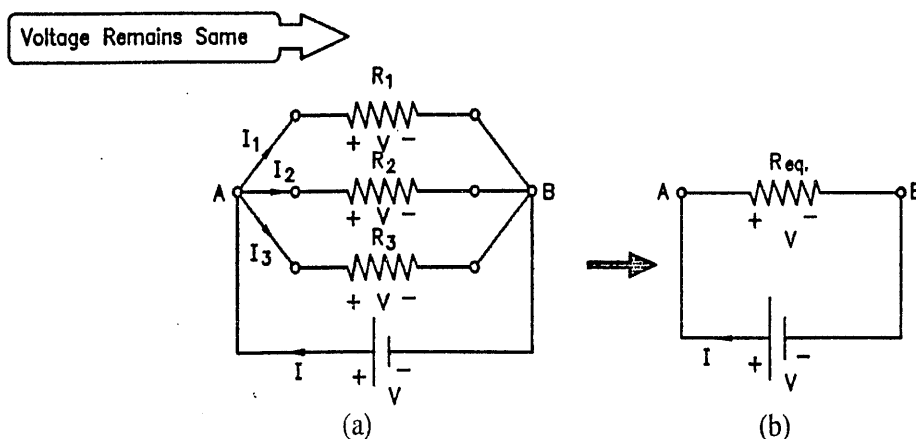

FIG. 1.27 : RESISTANCES CONNECTED IN PARALLEL
- Consider three resistances R_1 , R_2 and R_3 connected in parallel across a voltage source of V volts as shown in Fig. 1.27(a).
- Let R_{eq} be the total or equivalent resistance of the parallel circuit connected between the points A and B. as shown in Fig. 1.27(b).